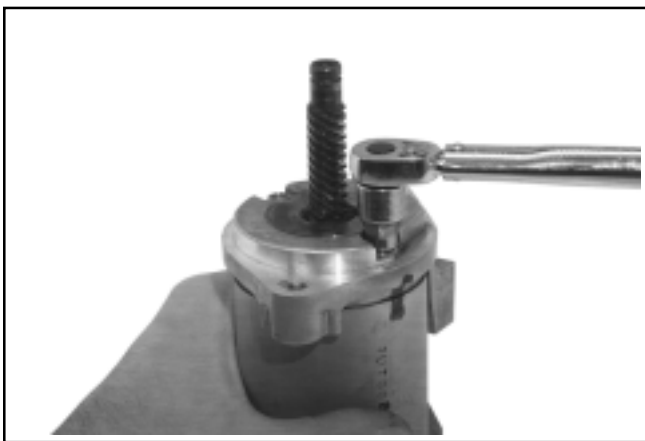

Figure 8-43. Torquing Thru Bolts.
- Align all scribe marks and install the thru bolts with O-Rings. Torque the bolts to **5.3 N·m (48 in. lb.)**. See Figure 8-43.